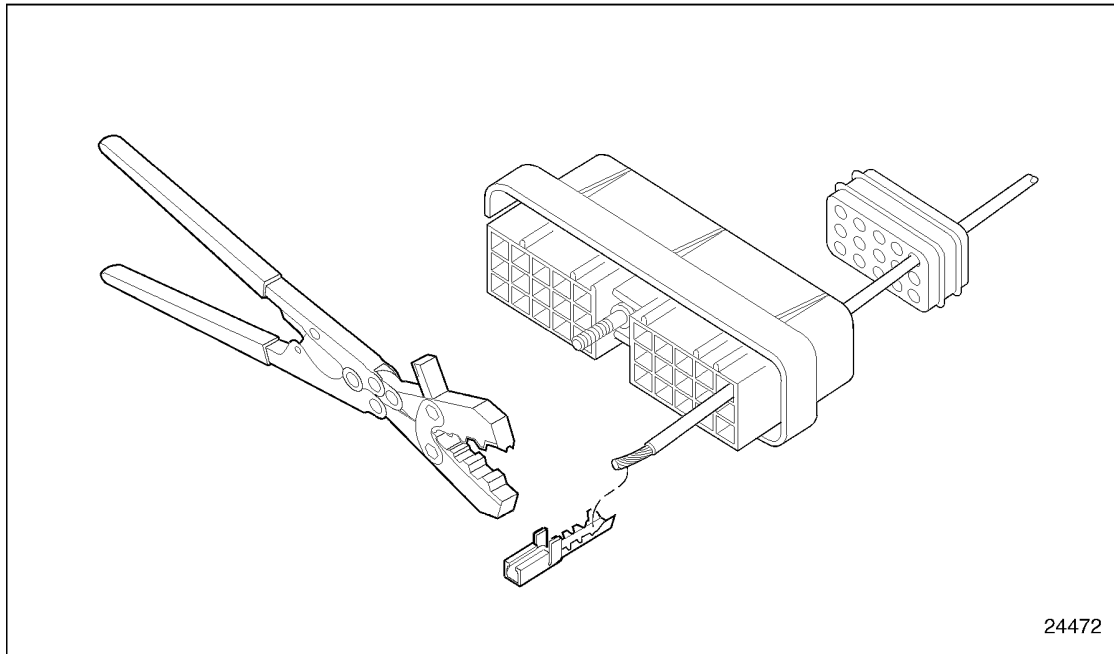

Figure 8-21 **Terminal and Crimping Tool Position**
5. Insert the terminal until the wire attaching portion of the terminal rests on the 20-22 anvil. Be sure the wire core wings and the insulation wings of the terminal are pointing toward the upper jaw of the crimping tool. See Figure 8-21.